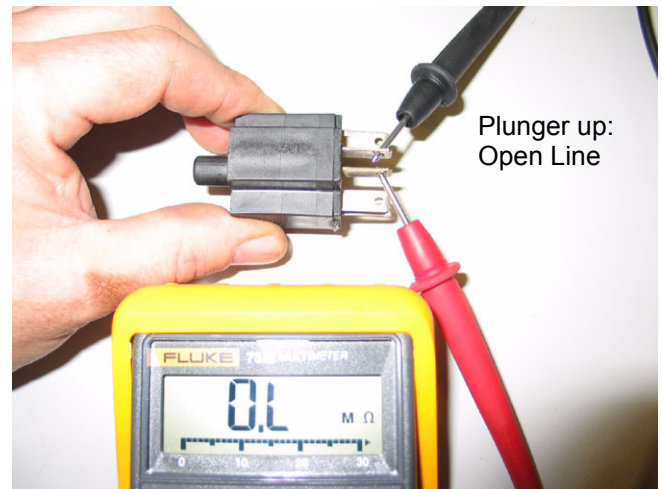

Figure 2.24
2.24. The brake switch on the Series 5000 tractor contains three sets of contacts. See Figure 2.24.